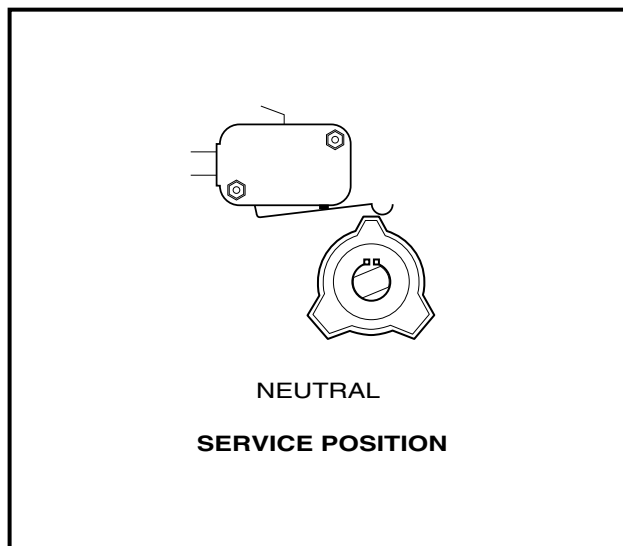

Figure 11-10 Correct Position for Lockout Cam
**NOTE:** Be sure the cam is in the correct position. The cam should activate the limit switch only when the Forward/Reverse handle is in the NEUTRAL position (**Figure 11-10, Page 11-11**).